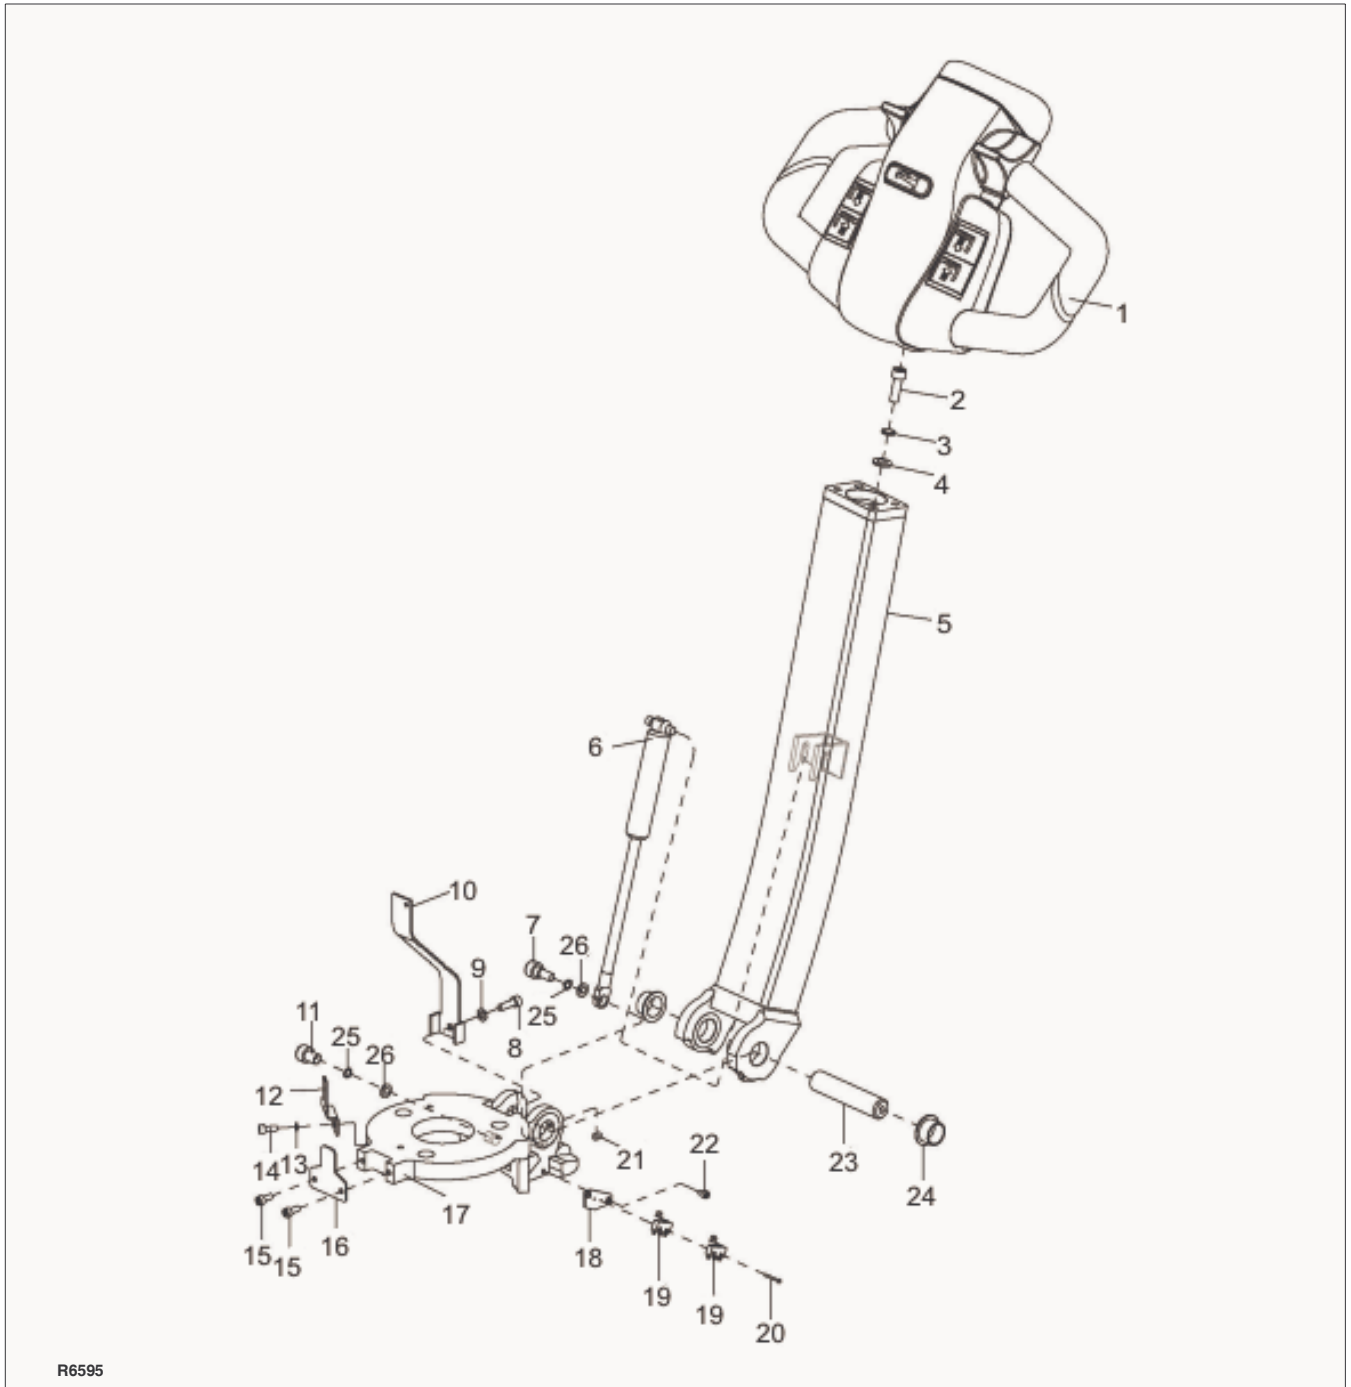

Figure 5-1 Steering Arm
2. Remove two screws (2, Figure 5-1), two washers (3) and two flat washers (4).
3. Install two screws (2, Figure 5-1), two washers (3) and two flat washers (4).
The steering arm gas return spring (6, Figure 5-1) is replaced while the steering arm (5) is in the upright position.
2. Secure the steering arm (5, Figure 5-1) in the upright position.
3. Remove screw (7), flat washer (25), washer (26) and free the gas return spring (6) from brake plate (16).
4. Pull downward on the gas return spring (6) to free it from its seat inside steering arm (5).
5. Position the new gas return spring (6) inside the steering arm being sure it fully engages its seat.
6. Position the opposite end of the gas return spring (6) on brake plate (16) and install screw (7), flat washer (25), washer (26).